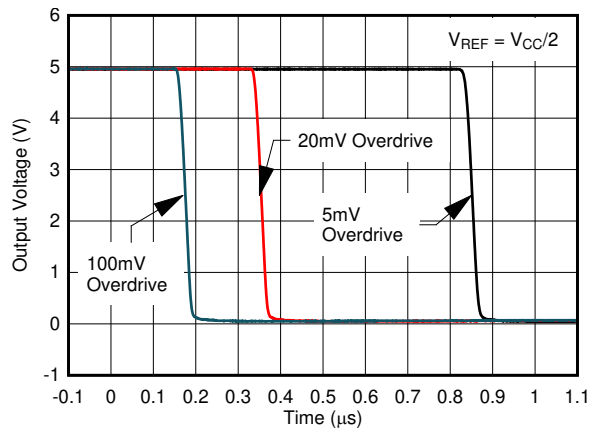

图 6-31. Response Time for Various Overdrives, High-to-Low Transition
- $R_{CE}$  can be determined by taking the slope of 图 6-31 in the linear region at the desired temperature, or by dividing the  $V_{OL}$  by  $I_{OUT}$